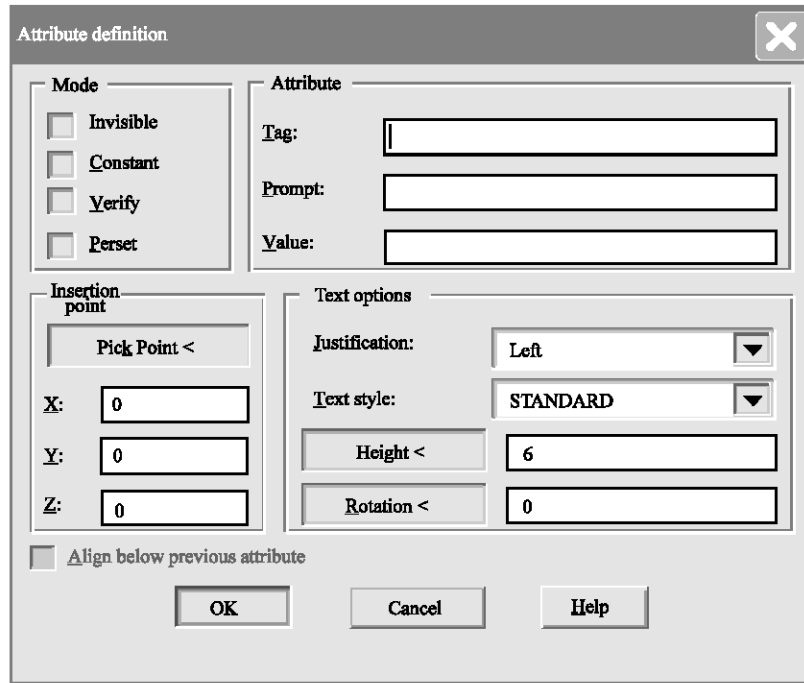

Fig. 4: Showing the attribute definition dialog box
If the Attributes Definition dialog box is not fully visible, move it by clicking the title bar and dragging the dialog box to a new position. The Attributes Definition dialog box looks like the one shown in Fig. 4.
**Note:** Select the Align below Previous attribute in the Attribute Definition dialog box represented in Fig. 4. (This saves you from selecting the insertion point each time).